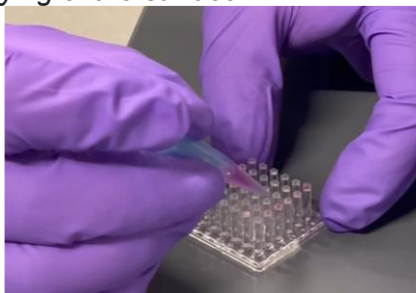

Figure 2. Loading the cell-Matrigel mixture on the pillar plate using a 1 mL pipette tip.
- Gently tap the 1 mL pipette tip containing the cell-Matrigel mixture onto the center of the pillar to load single-cell suspension in Matrigel while blocking the large back opening of the tip with the index finger (**Fig. 2**).